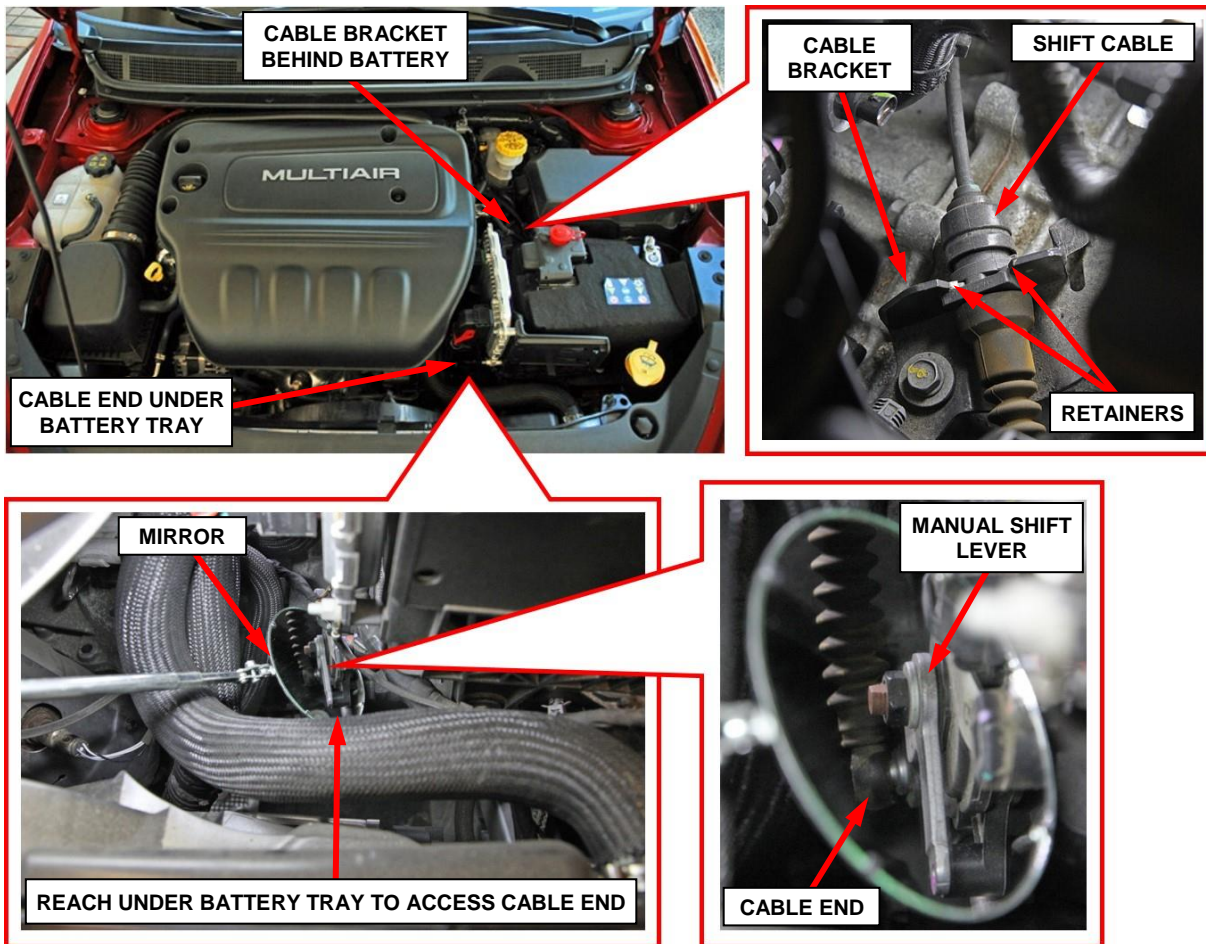

Figure 1 – Shift Cable Location on Transmission – Reach Under Battery Tray
NOTE: The battery tray does NOT require removal. Transmission gear shift cable bushing requiring replacement is accessible by reaching under the battery tray (Figure 1).
3. Release the transmission gear shift cable end from the transmission manual shift lever (Figure 1).
4. Release the retainers securing the transmission gear shift cable to the cable bracket (Figures 1 and 2).
14. Engage the retainers securing the transmission gear shift cable to the cable bracket (Figures 1 and 2).
15. Install the transmission gear shift cable end to the transmission manual shift lever. Ensure the cable end bushing is securely engaged onto the manual shift lever (Figure 1).